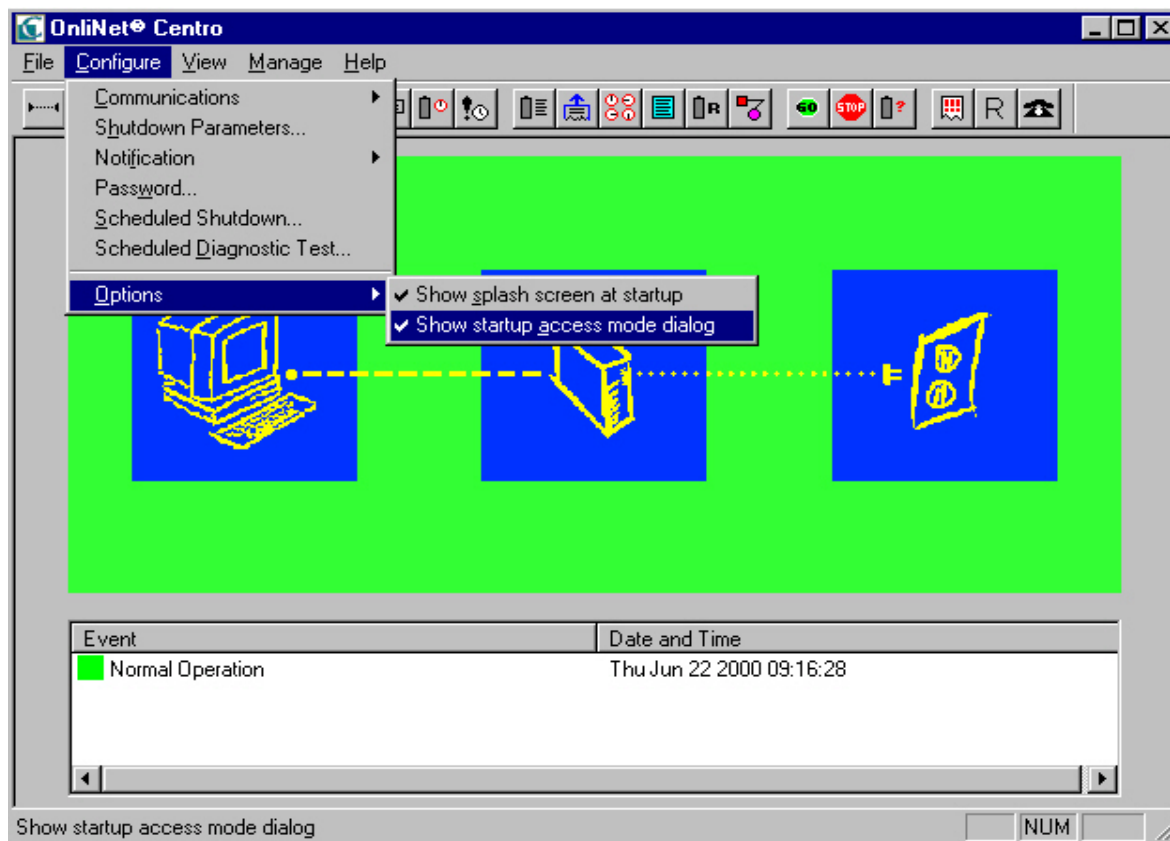

Figure 11. On the Configure Menu, Point to Options and Click Show Startup Access Mode Dialog
1. On the Configure menu, point to Options and click Show startup access mode dialog (see Figure 11).